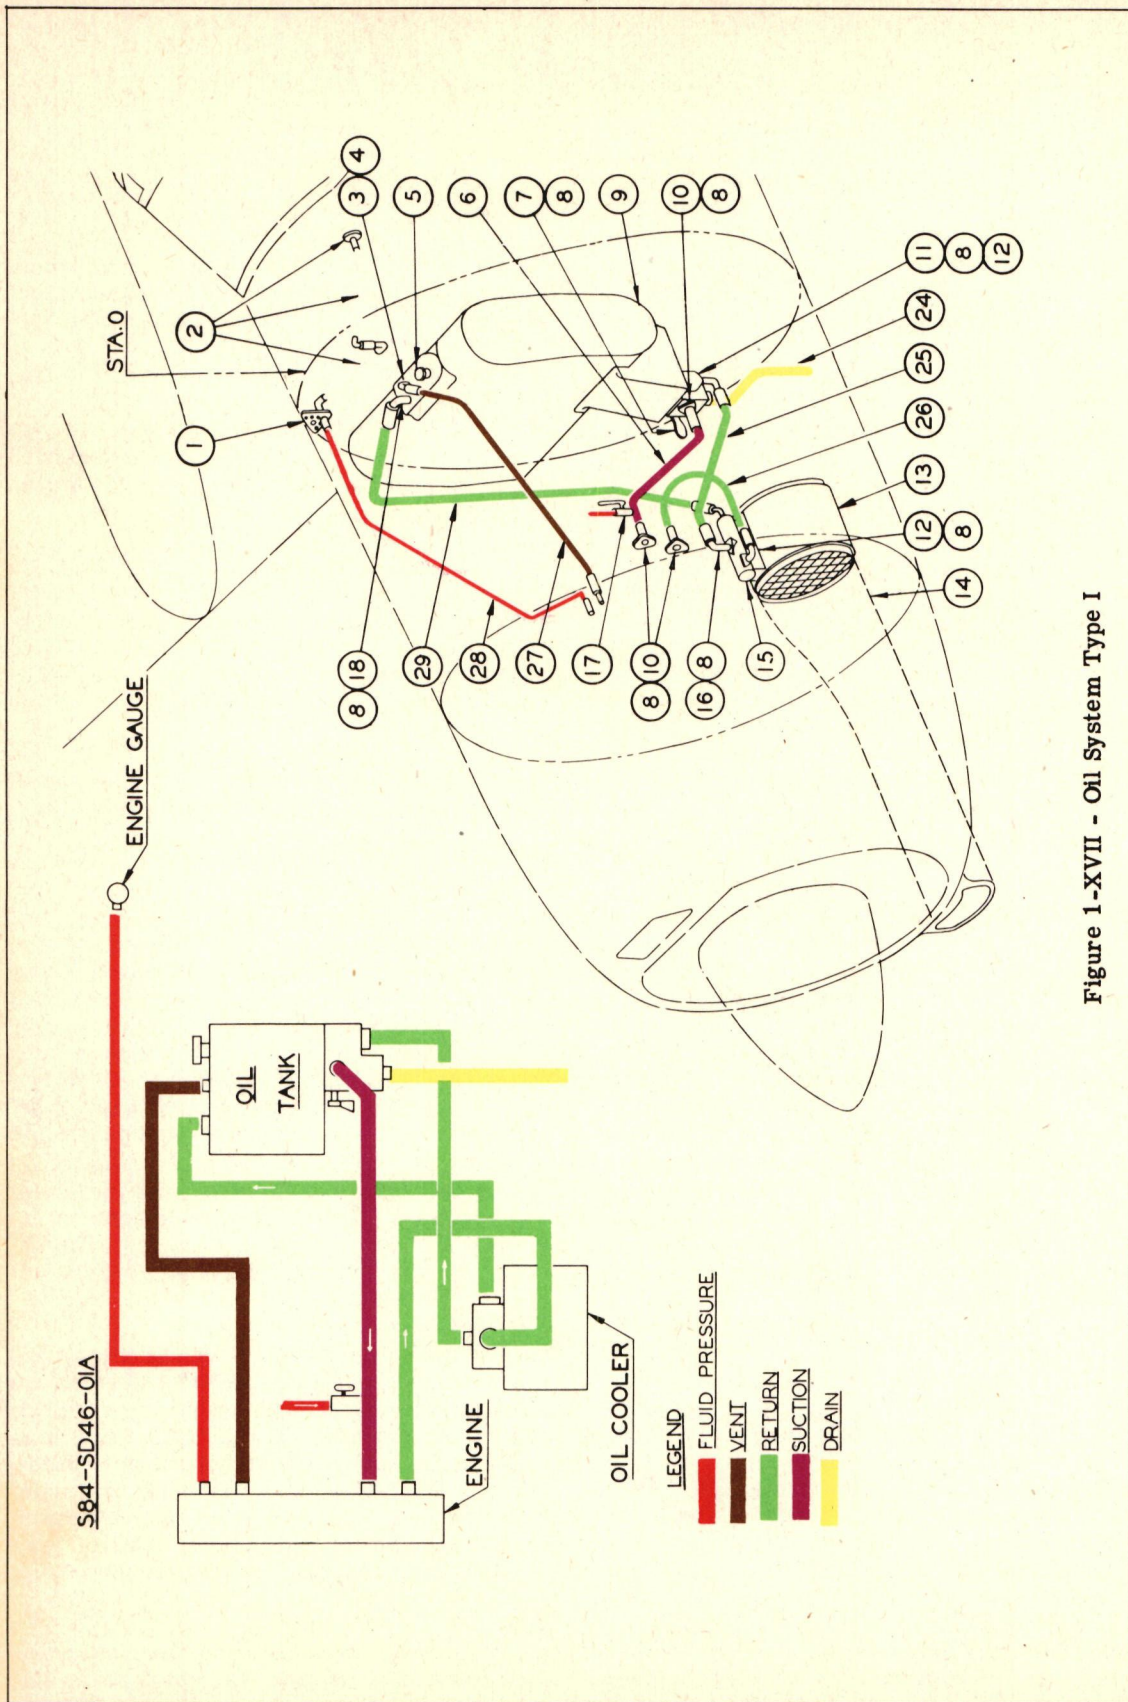

Figure 1-XVII - Oil System Type I
Besides the switch and dilution valve mentioned above, the system consists of two shut-off valves, one at the intake at the carburetor and the other at the outlet at the oil inlet line, and the necessary tubing and fittings (fig. 1-XVI). The shut-off valves should be kept closed and safetied during warm or hot weather. To prevent constant diluting of the oil, the oil dilution valve will be inspected according to the following:
b. Location of Units.- The carbon dioxide bottle (reservoir) is fastened to the forward side of the bulkhead just aft of the target approach door (fig. 1-XVI). An extension rod leads from the bottle upward through the floor of the pilot's cockpit, aft and right of the control stick, where a handwheel with a locking pin is located. A safety disc washer is installed in a port connected to the cylinder side of the reservoir outlet valve. A safety discharge line from this port leads to a red celluloid disc, mounted in the skin of the fuselage on the right side of the airplane, just above the leading edge of the wing. The system regulator valve is fastened on the aft side of the above mentioned bulkhead on the right side of the ship. The discharge valve is at the top center of the aft end of the fuselage fuel tank.
(1) Revolving the handwheel releases the carbon dioxide to the regulator valve. This unit allows a sufficient amount to flow to the discharge valve which, in turn, injects the gas into the fuselage tank.
The strainer ahead of the fire wall (fig. 1-XVI) is the main fuel strainer of the system. (Aero Supply Mfg. Co. No. 63701.) This unit may also be used as a drain. The fuel may be drained by removing the lock wire and opening the drain. The strainer may be removed after the fuel has been drained by removing the lock wire from the strainer clamp and loosening the clamp (23416 assembly).